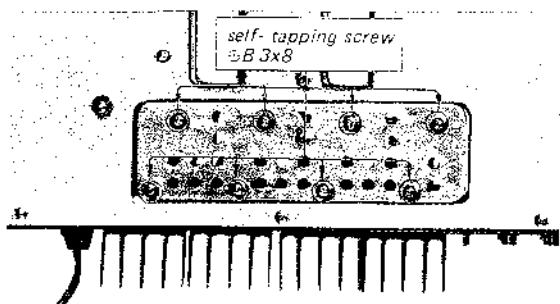

Fig. 2-8 Heat sink removal
3. Remove the four self-tapping screws (# B 3x8) securing the pair of heat sinks to the chassis as shown in Fig. 2-8.